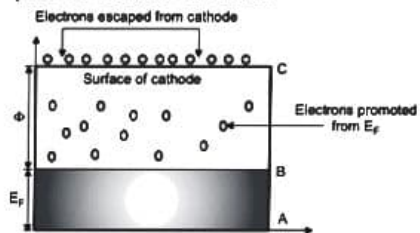

Fig. 1.16 : Emission process of electrons from emitter
- At the surface of a metal, a potential barrier exists which prevents the electrons from escaping unless certain conditions are met. This concept can be explained as follows. Fig. 1.16 depicts the emission process of electrons from emitter.